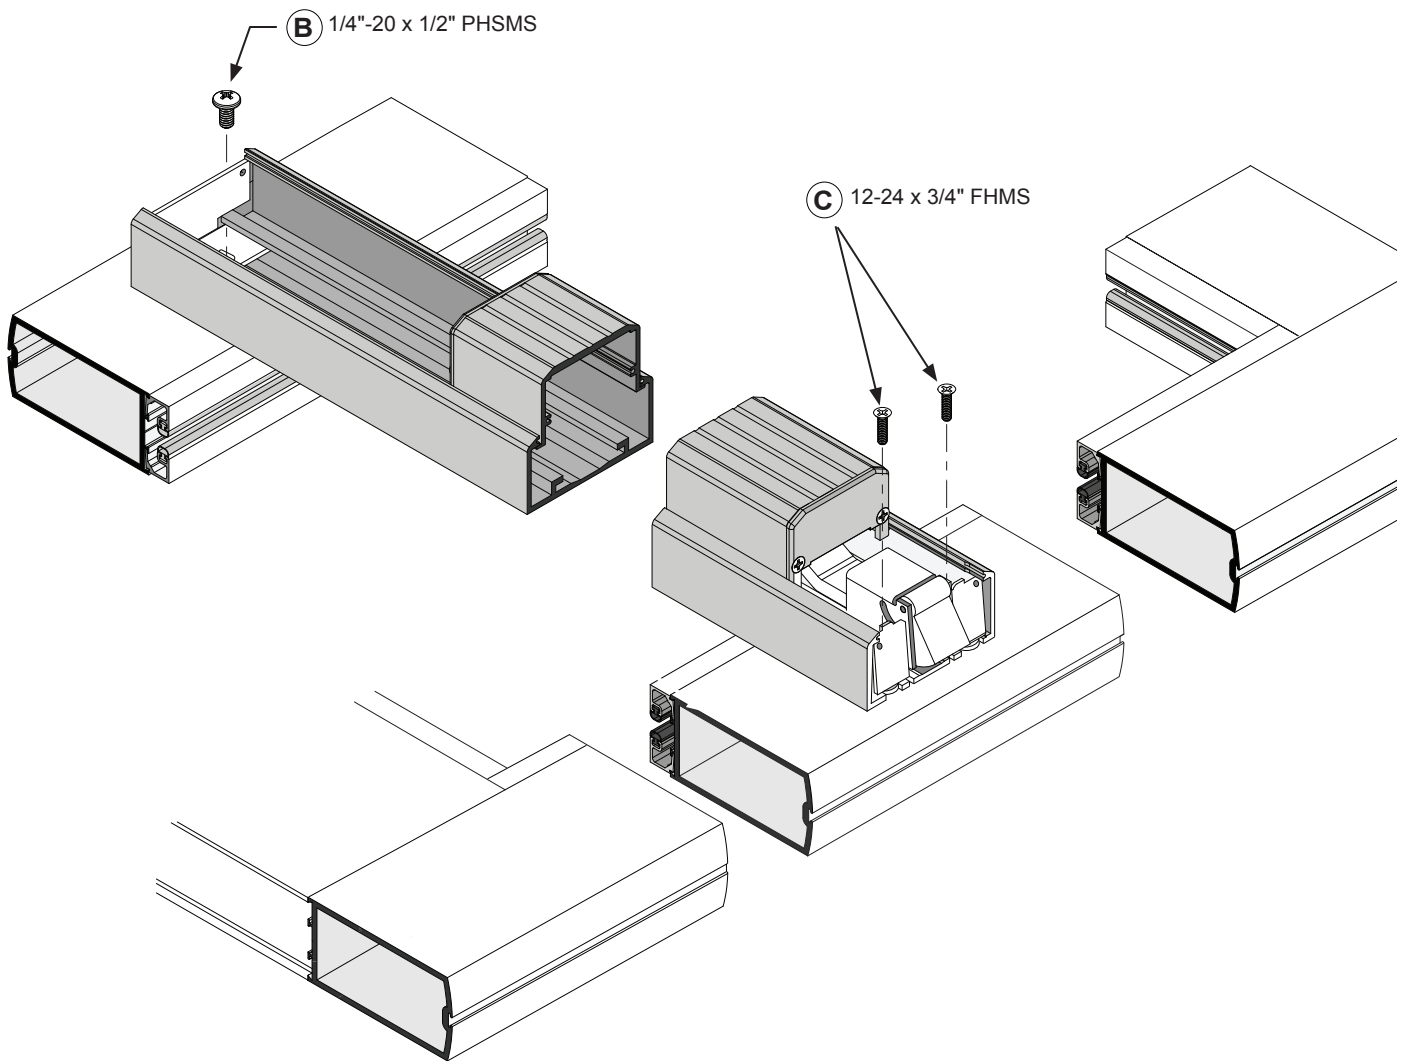

FIG. 11
1. Attach exit panic device to door with **(C)** (2) 12-24 x 3/4" FHMS on active stile and **(B)** (1) 1/4"-20 x 1/2" PHSMS at end cap bracket on inactive stile as shown in Fig. 11.